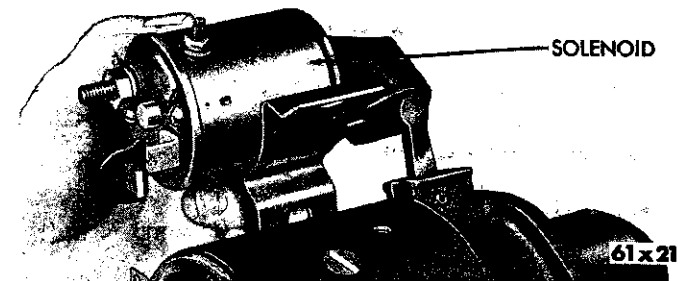

Fig. 4—Removing the Starter Solenoid
(6) Remove the solenoid attaching screws and remove the solenoid and boot assembly (Fig. 4).